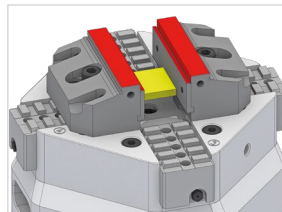

Fig. 1
2. Put a square piece of metal between the jaws and clamp it with clamping pressure [see Fig. 1].